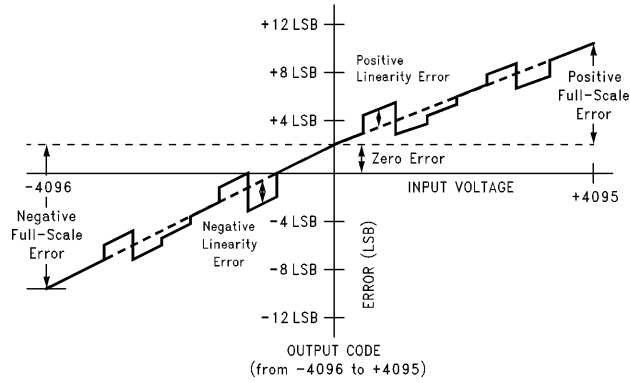

FIGURE 1b. Simplified Error Curve vs Output Code without Auto-Cal or Auto-Zero Cycles
**Note 11:** Positive linearity error is defined as the deviation of the analog value, expressed in LSBs, from the straight line that passes through positive full scale and zero. For negative linearity error the straight line passes through negative full scale and zero. (See *Figures 1b* and *1c*.)